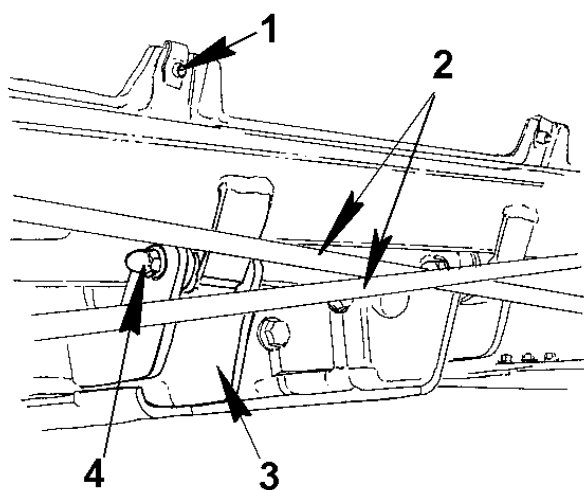
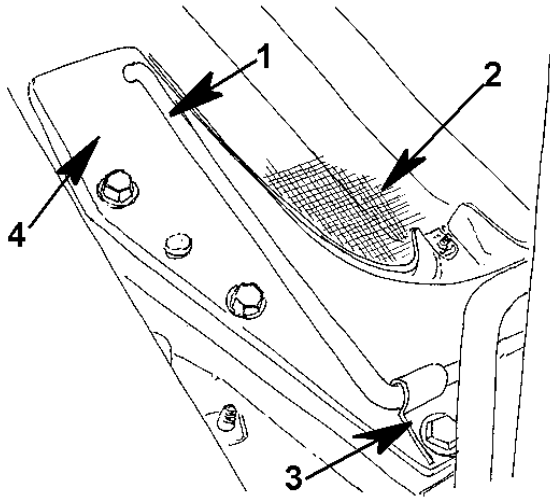
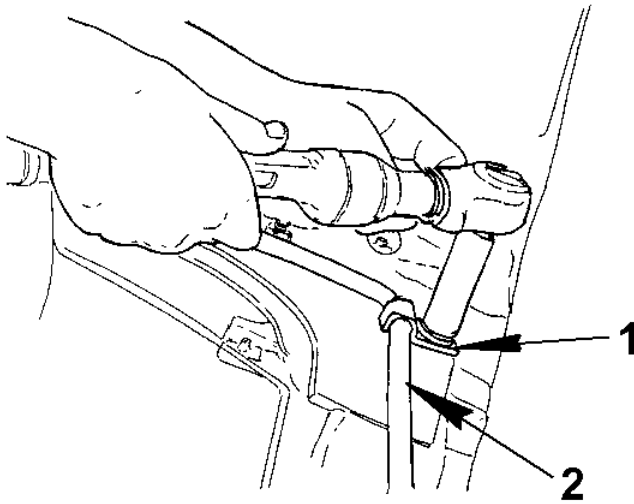
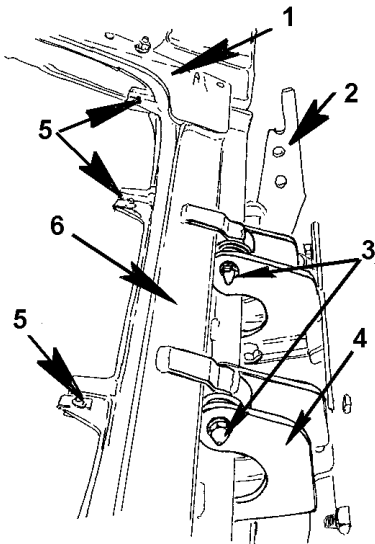

Figure 20 Torsion Bars and Hinge Assembly
Figure 21 Torsion Bar Hood Mounting Assembly (Driver Side Shown)
Figure 22 Torsion Bar Mounting Bracket
Figure 24 Cross Bar and Hinge Assembly
10. With the hood still in the open position, locate the hinge hex head locking nuts (Figure 20, Item 4), and the torsion bar mounting points (Figures 21 and 23).
11. Locate the torsion bar ends at each side of the hood assembly (Figure 21, Item 1).
12. Loosen and remove the torsion bar mounting bolt (Figure 22, Item 1) that secures the mounting bracket to the lower section of the hood vertical support bracket.
13. With torsion bar mounting bracket removed, lift torsion bar upward and remove torsion bar end from the vertical hood support bracket (Figure 21, Item 4) and torsion bar support bracket (Figure 24, Item 2).
17. Locate the hood hinge pin and hex nut at (Figure 24, Item 3) the hinge plate (Figure 24, Item 1).
8. Locate the tilt assist hood alignment bracket (Figure 24, Item 32). Place the torsion bar through the alignment bracket, then insert the end of the torsion assist bar into the hood vertical support bracket (Figure 21, Item 4).
9. Locate and align the torsion bar mounting bracket and bolt on the hood vertical support bracket (Figure 21, Item 3). Insert the torsion bar mounting bracket bolt and tighten (Figure 22, Item 1).